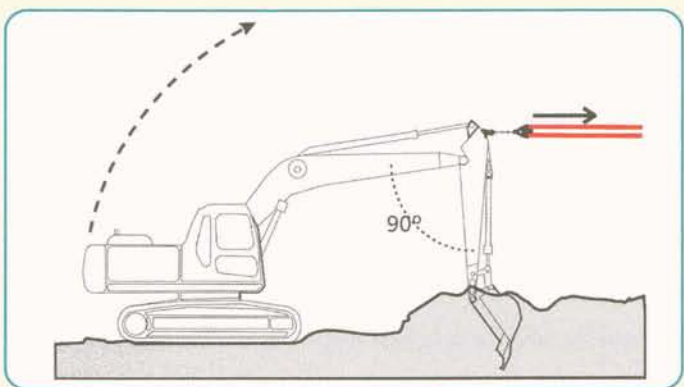

Figure 2 - Failure due to overturning forward
2. *overturning forwards* - this can occur when the load-bearing rope(s) are attached high on the dipper arm, with the boom parallel to the direction of pull. The rear of the excavator will start to lift off the ground. If the boom remains in line with the direction of pull, the excavator will overturn forwards (Figure 2).